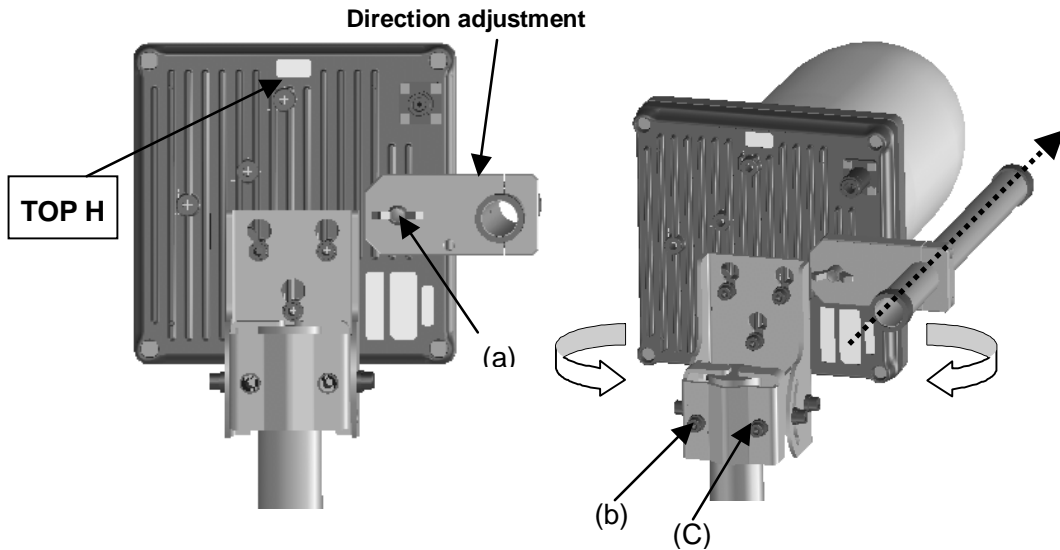

Figure 5-14 Attaching the Direction Adjustment tool      Figure 5-15 Adjusting the Horizontal Direction
- As shown in Figure 5-14, use the wing bolt (a) to attach the Antenna direction adjustment tool.